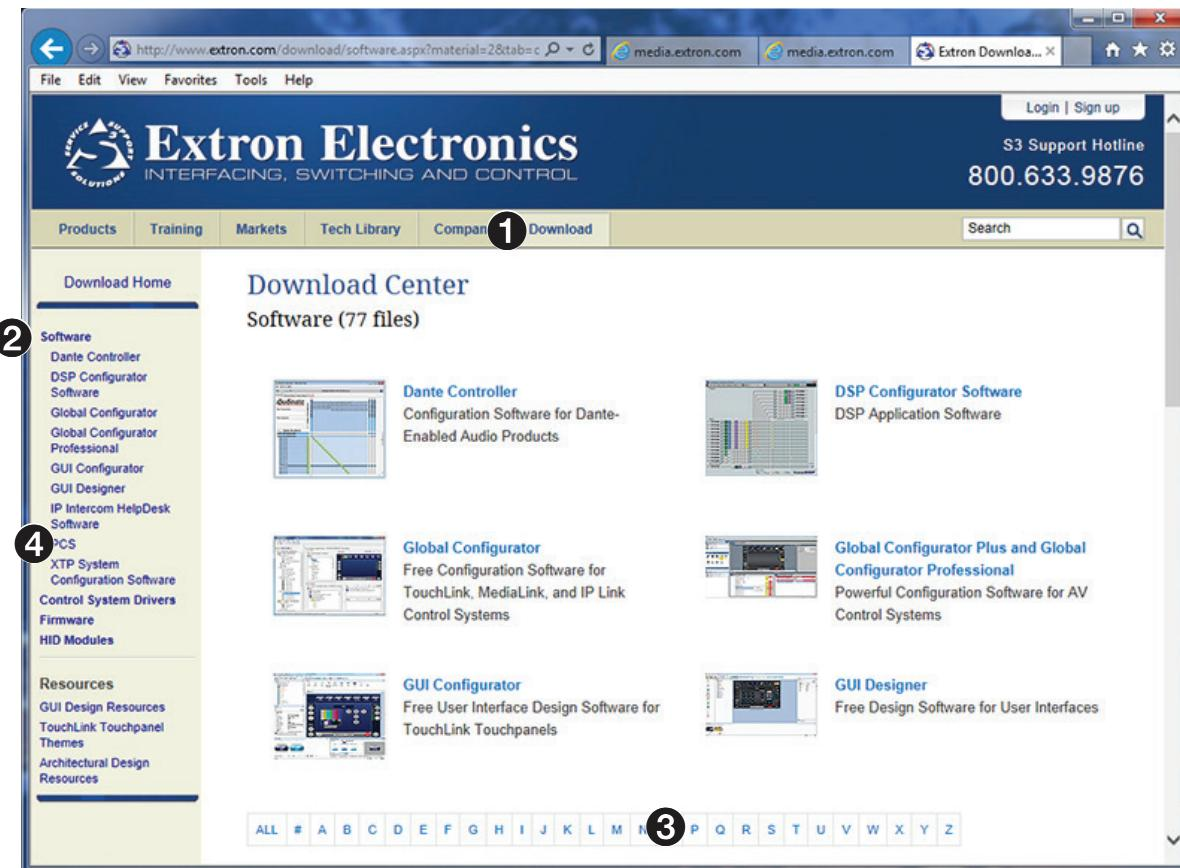

Figure 11. Downloading Software
1. Go to www.extron.com and click the **Download** tab (see figure 11, **①**).